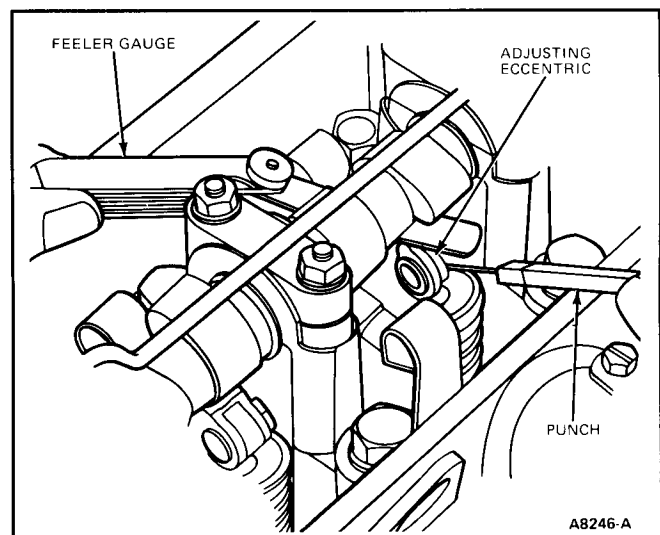

FIG. 9 Valve Adjustment
4. Rotate eccentric using a small punch until valve clearance is adjusted to specification: Intake: 0.3mm (0.012 inch); Exhaust: 0.04mm (0.016 inch). Tighten eccentric locknut (Fig. 9).